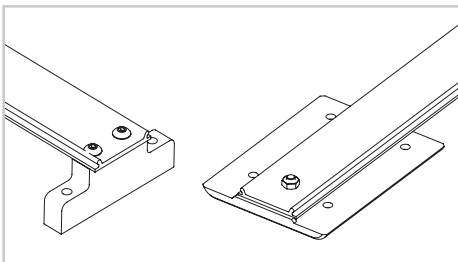

Fig. 6
- 5) Remove the screws and nuts that fix the belt to the block/plate (Fig. 6).